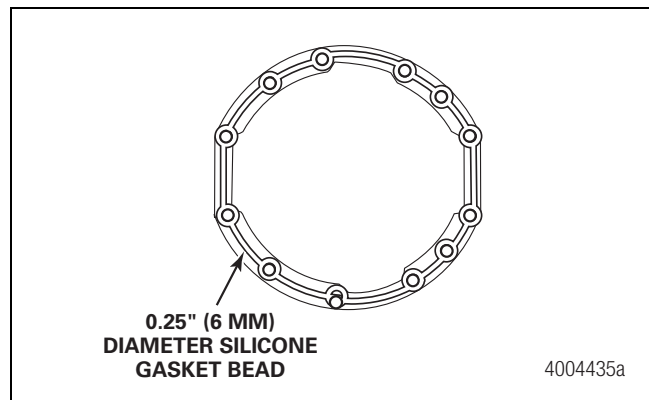
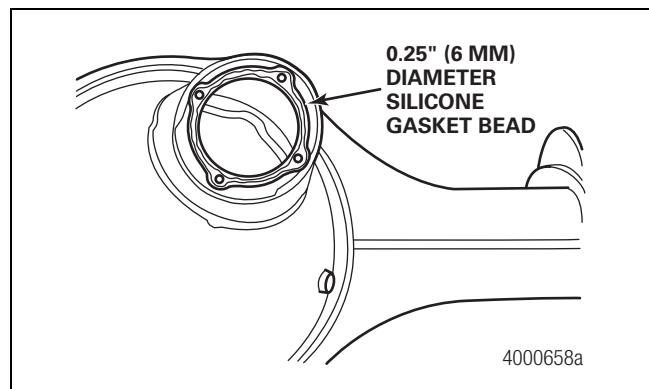

Figure 4.8
Figure 4.9
12. Apply a 0.25-inch (6 mm) diameter continuous bead of Loctite® 5699 RTV silicone gasket material around one surface. Also apply the gasket material around the edge of all fastener holes on that surface. Figure 4.8 and Figure 4.9.